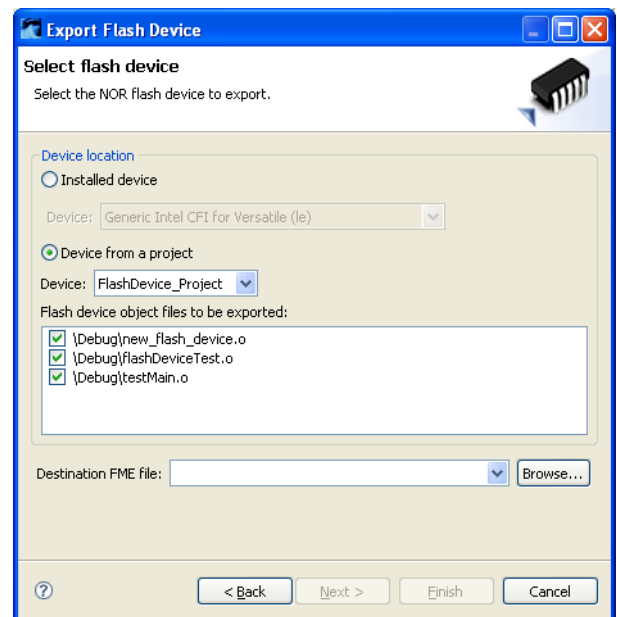

Figure 6-19 Export flash device object files
2. Select the flash device files to be exported. These can be files from an installed device or a project. Enter the name and location of the destination FME file or use **Browse...**, see Figure 6-19. Click on **Next**.